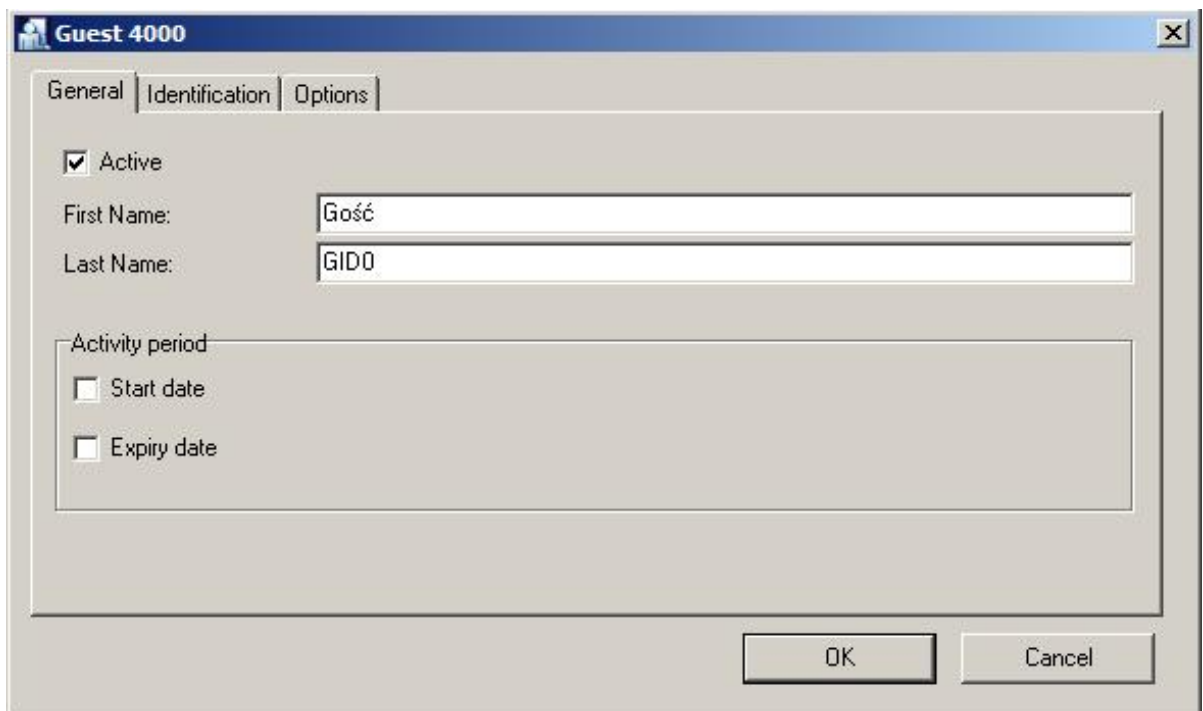

Fig. 7 Guest activation
- In newly opened window (see fig. 7) mark the option **Active** and then enter first and last name of guest. Optionally, specify activity period in order to prevent unauthorized use of card in the future.
- In newly opened window (see fig. 7) unmark the option **Active**. Prior to this you can also delete guest's first and last name in order to make the list of guest clearer.